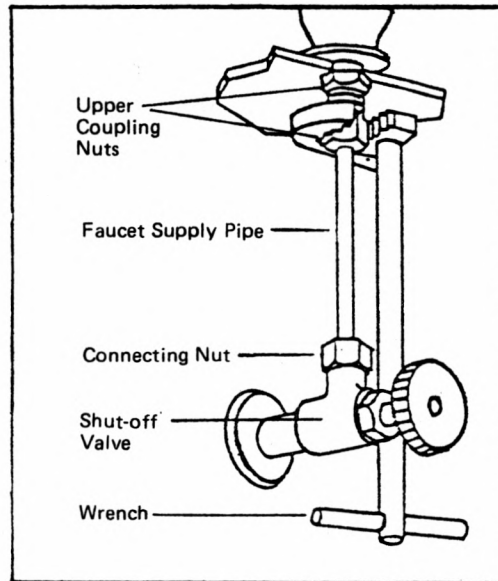

FIG. 4-17 REPLACING A FAUCET
- a. Shut off the water supply to the faucet. See Figure 4-17.